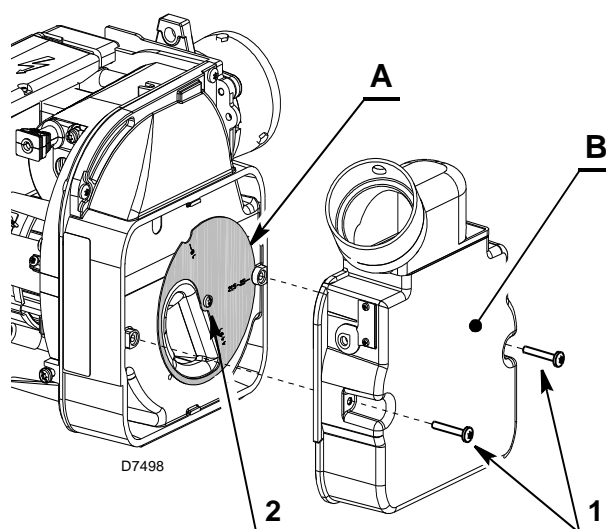
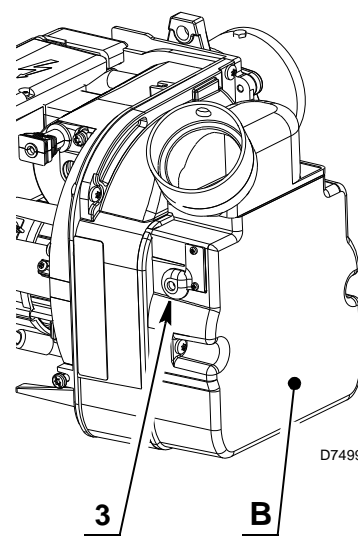

Fig. 22
Fig. 23
The air setting is performed by mean of two independent dampers (see Fig. 22 and Fig. 23).
- remove the secondary air damper B)(Fig. 22) loosing the screws 1).
Tuning of this device is possible acting of the screw 3)(Fig. 23).